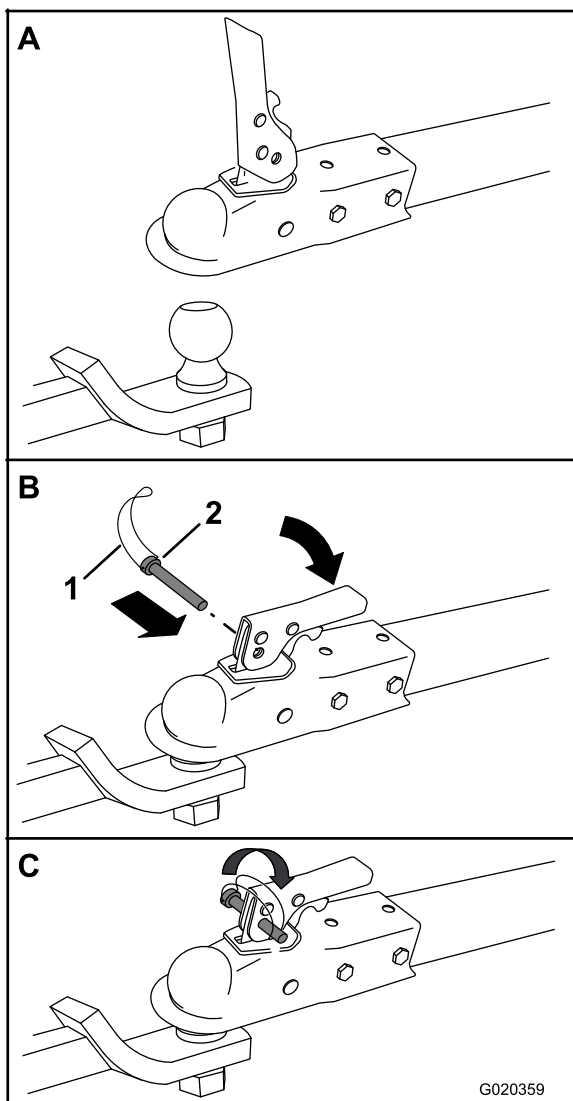

Figure 22
3. Open the coupler latch (Figure 22).